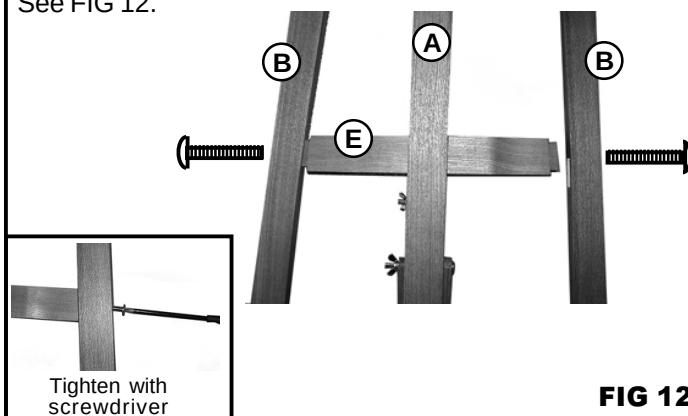

FIG 12
STEP 12. Secure Upper Cross Member by using the 2 remaining 2-1/4" Bolts [L] into the holes that are on the outside edge of Legs [B] near the top. Tighten with screwdriver supplied. PLEASE NOTE: Make sure bolt goes through and into Cross Member too. See FIG 12.